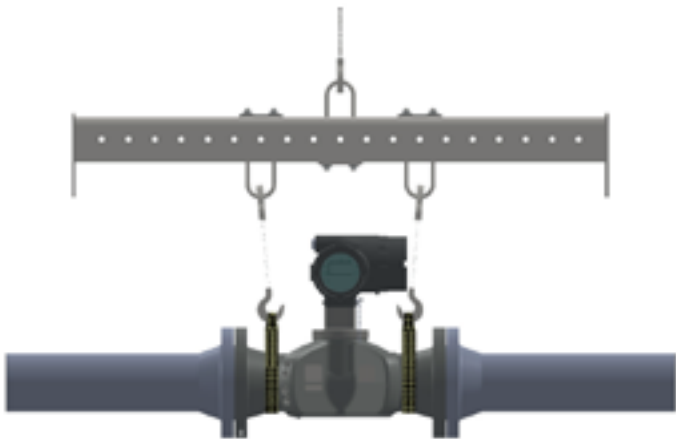

Figure 7: Lifting strap locations
- Make sure the **Sentinel LCT8** is oriented with the flow transmitter in a vertical position at the top, as shown in *Figure 7* below.
| | To avoid possible strain, refer to the Sentinel LCT8 label for the assembly weight, use a properly-rated lifting assembly, and place the lifting straps in the indicated locations (see Figure 7 on page 6). Never stand below any object being lifted! |